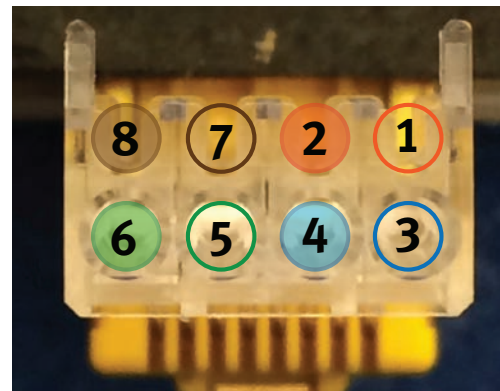

Figure 9: Wire positions inside connector
8. Starting with the bottom row, insert the wires into the connector according to the following diagram (Figures 9 — 10).